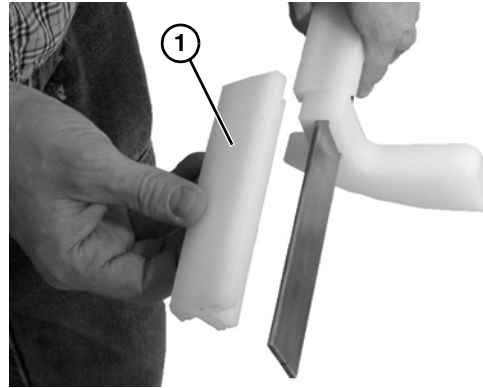

Figure 39
- Remove and replace wear strips if worn (Figure 39, item 1).